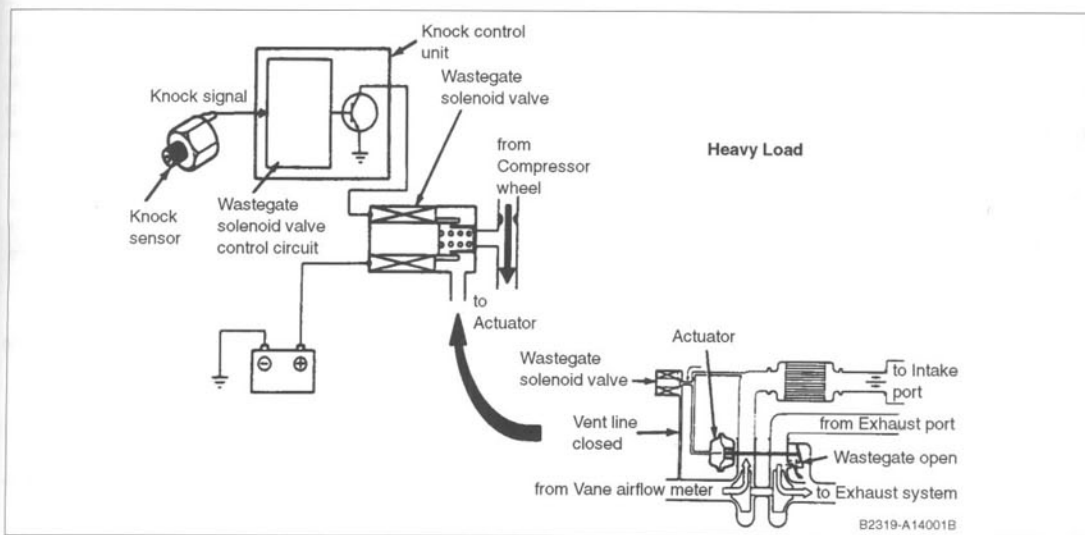

Fig. 7-1. Under heavy load, knock signals to Knock Control Unit (KCU) cause wastegate solenoid valve to open bypass, reducing turbo boost.
Full-Throttle Acceleration shifts spark timing to a different set of look-up tables that provide advanced spark timing for maximum power without regard to emission control. With a richer mixture that is less likely to detonate, spark timing increases, perhaps from 20° BTDC to 30°. The Knock Sensor (KS) monitors engine vibrations and retards spark if it detects detonation. KS operates closed loop, retarding to reduce knocking, and advancing slowly as knock signals disappear. See Figure 7-1.